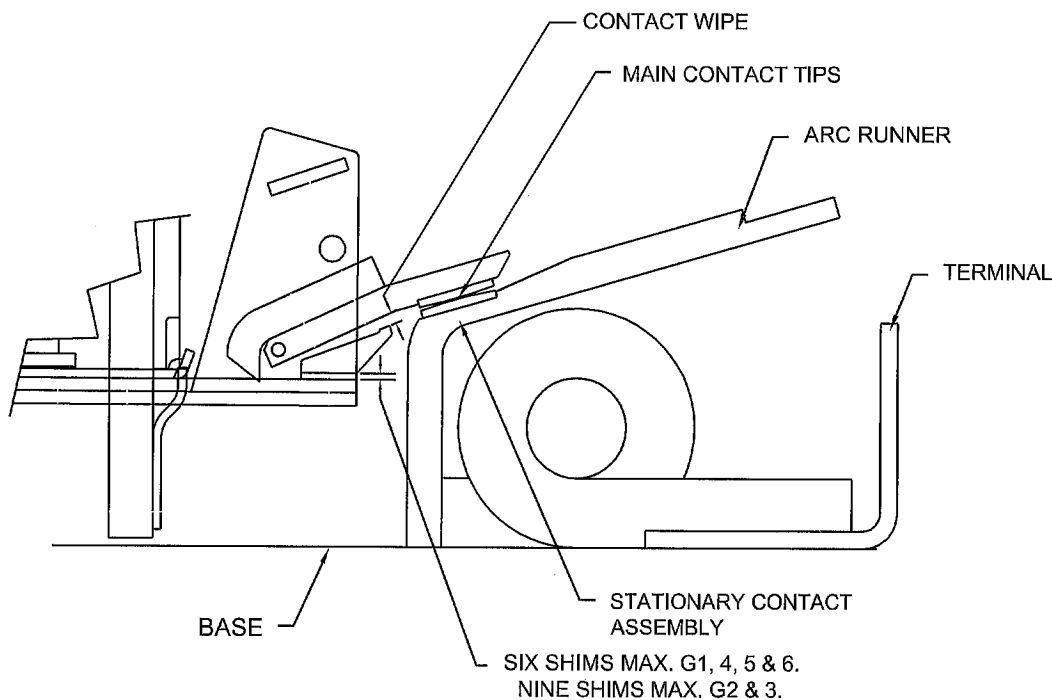

FIGURE 2
1.2. Verify that the main contact tips align within .06 inch side to side and lengthwise. Bend the stationary contact assembly or shift in mounting holes as required while making sure that the attached arc runner is kept parallel to the base and the terminal is square to the base. Reference figure 2.
2.1. With the coil energized, main contact wipe must be between .16 and .23 inch. Shim to adjust. Use no more than 6 shims. Reference figure 2.
3.1. With the coil energized, contact wipe must be between .09 and .15 inch. Use no more than 9 shims. This interrupter/contactor may not pick up if the wipe is greater than .15 inch. Reference figure 2.